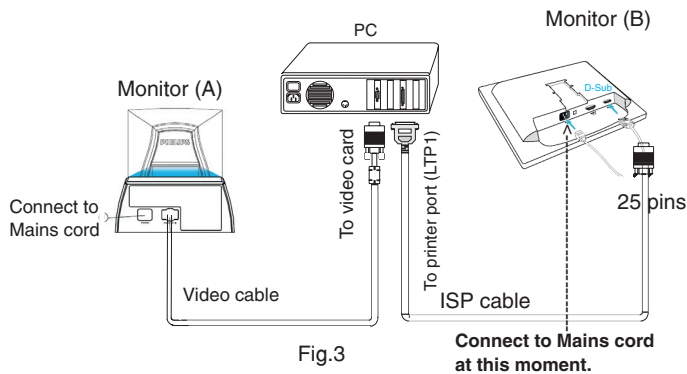

Fig.3
Step 4 : Connect ISP cable and Mains cord to Monitor as shown in Fig. 3.